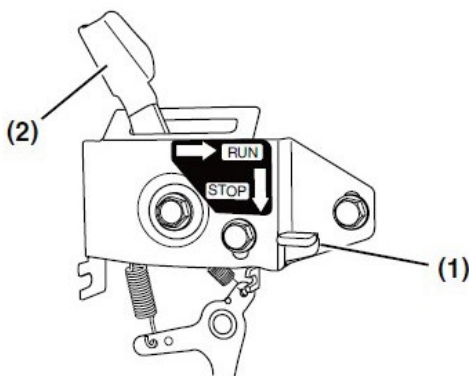

Figure 18
2. If your engine speed control is similar to **Figure 18** press the STOP button (**Figure 18, (1)**) and the engine speed control lever (**Figure 18, (2)**) will automatically return to the STOP position .